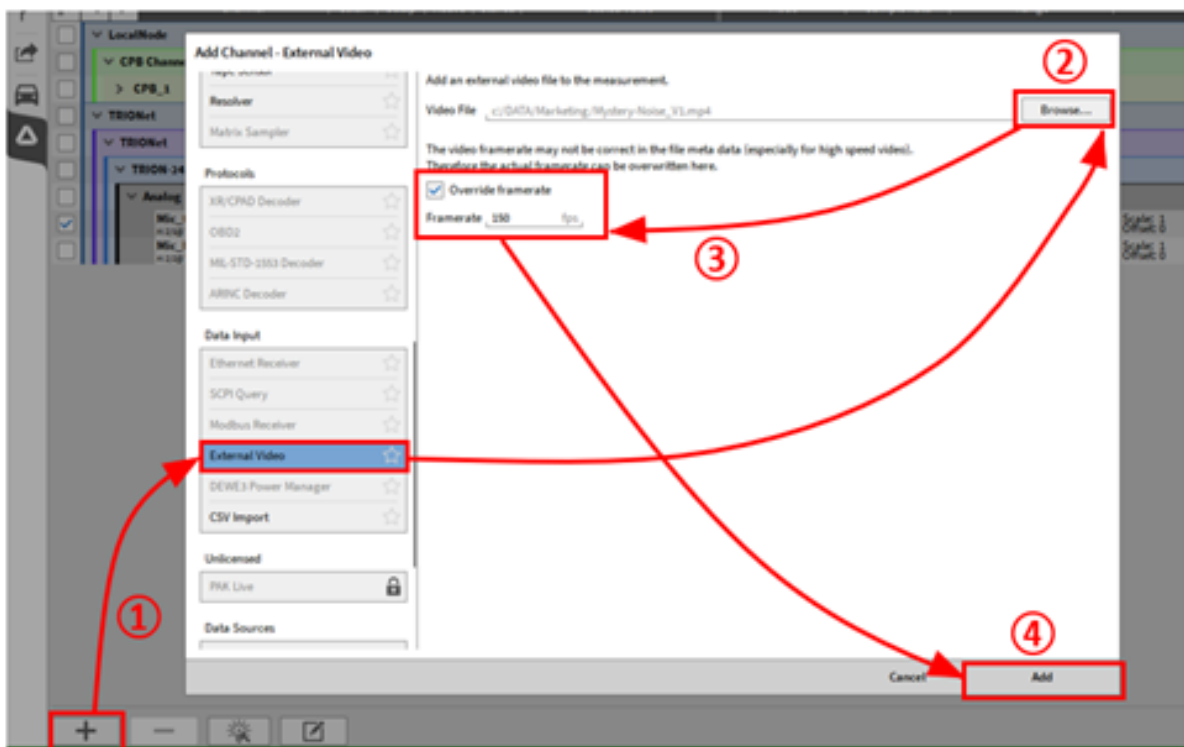

Fig. 7.166: Procedure to load an external video
- Go to the Channel List, press the + Button and select *External Video* (see ① in Fig. 7.166)
- Click on *Browse...* to select the video file (see ② in Fig. 7.166)
- Enter the native recording frame rate of the video (see ③ in Fig. 7.166)
- Press *Add* to create a new video channel (see ④ in Fig. 7.166)